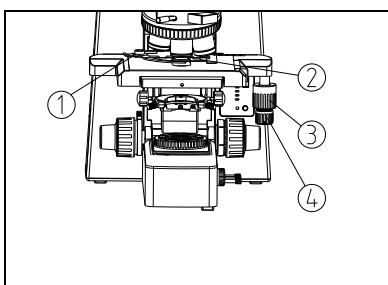

Fig.12
(1) Push the wrench (1) of the specimen holder backwards (see Fig. 12).
(2) Loosen the wrench (1), and clamp the slide (2) by the clips while the cover glass faces up.
(3) Rotate the X-axis knob (4) and Y-axis knob (3). Move the specimen to the center (alignment with the center of the objective).